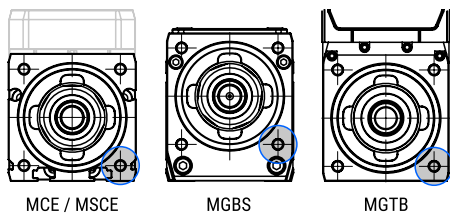

Figure 4: Mounting position of the anti-rotation screw 3.
STEP 2: Mount the anti-rotation screw 3 into the bottom right mounting hole on the product, where the motor adapter housing 1 will be installed (please see Figure 4, where the mounting positions for screw 3 for different products are presented).